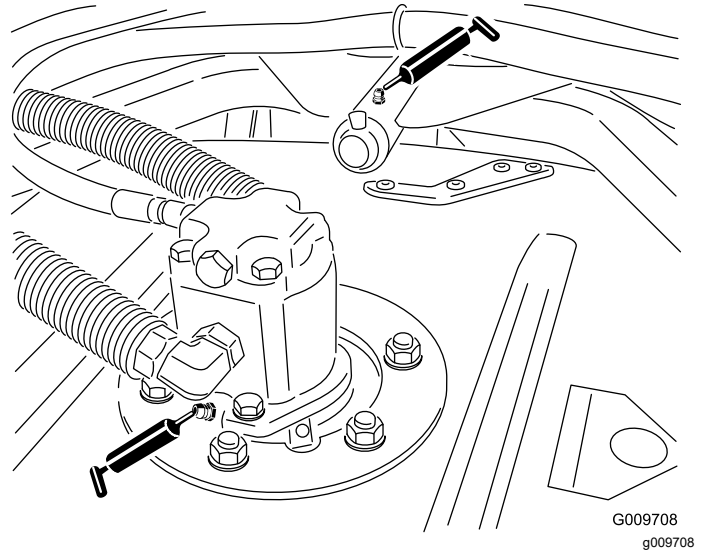

Figure 48
- Cutting-unit spindle-shaft bearings (2 per cutting unit) as shown in Figure 48
- Cutting-unit carrier-arm bushings (1 per cutting unit) as shown in Figure 48